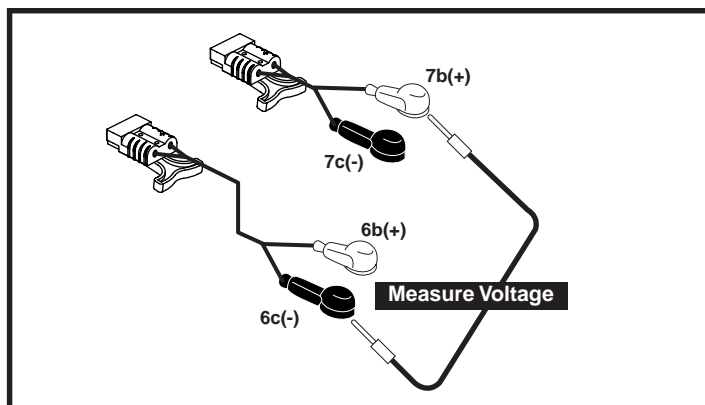
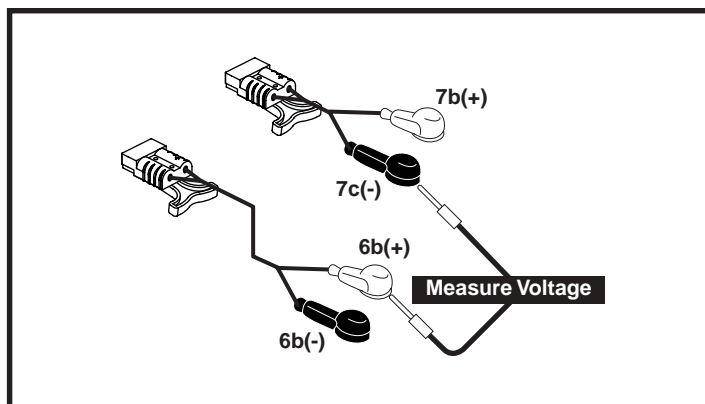

Figure 40. Connectors 6c and 7b
Figure 41. Connectors 6b and 7c
3. Measure voltage across connectors 6c and 7b. See **figure 40**. (If your multimeter indicates 0VDC, then measure voltage across connectors 6b and 7c. See **figure 41**.)